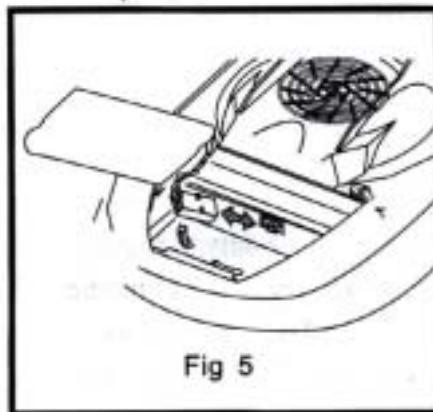

Fig 5
2. Insert fully charged BATTERY PACK into battery compartment as shown. Observe position of wire as shown. (figs. 5)